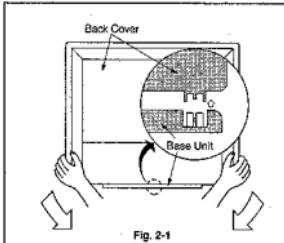
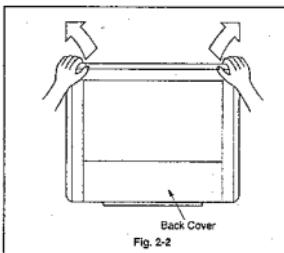

Fig. 2-1
Fig. 2-2
3. Hold the low corners of the Back Cover and release them a little (refer to Fig. 2-1). Lift the lower centre "tongue" of the back cover out of the turntable rim well (refer to Fig. 2-1). Moving around the periphery of the Back Cover (refer to Fig. 2-2) release and remove it from the Front Cabinet.
2. Push the bottom corners of the Back Cover down ensuring the "tongue" of the Back Cover engages the Front Cabinet correctly. At this point the Back Cover may not go the full way in. Fit the "tongue" at the bottom of the Back Cover into the turntable well by lifting the back cover (refer to Fig. 2-1). Now push the Back Cover carefully into place. Confirm that the Back Cover fits perfectly to the Front Cabinet with no space between the top, bottom or any side.
3. Fix the Back Cover with the screws removed during the Back Cover removal (refer to Removal of Back Cover items 1 and 2).